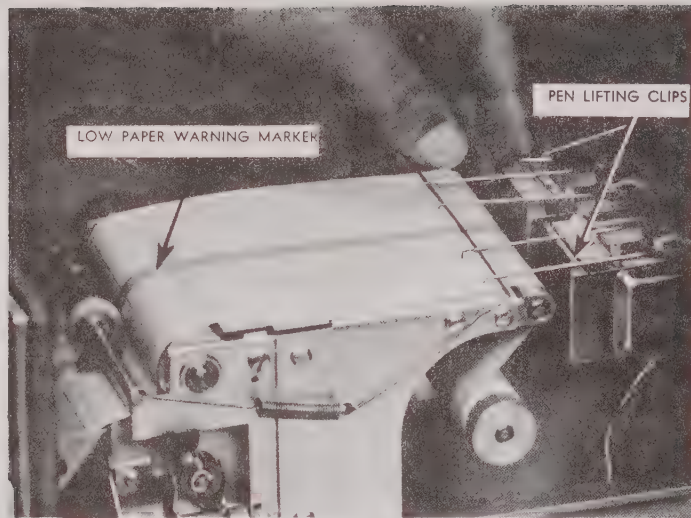

Fig. 2-5A Rotating Pen Lifting Clips
2. Raise the writing pens from the paper table by rotating pen lifting clips to a vertical position (Figure 2-5A).
9. Return the pen lifting clips to the horizontal position (Figure 2-5A), and close the recorder drawer. The "Meterite" is now ready to record.
3. Raise the writing pens from the paper by rotating the pen lifting clips (Figure 2-5A).
The pens will NOT write if the elevating clips are in vertical position. (See Figure 2-5A.)